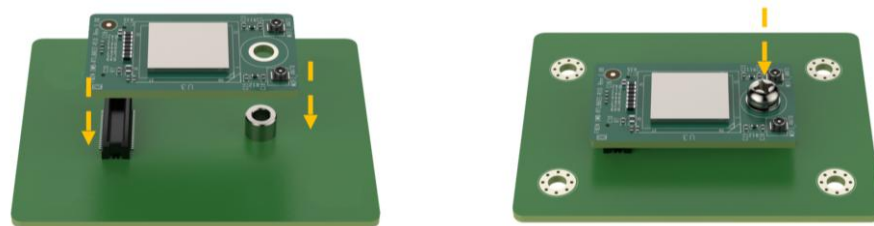

Figure 3-10: Insert the Wi-Fi Module
- Step 6:** Line up the notch on the Wi-Fi module with the notch on the connector. Insert the Wi-Fi module into the socket (**Figure 3-10**).